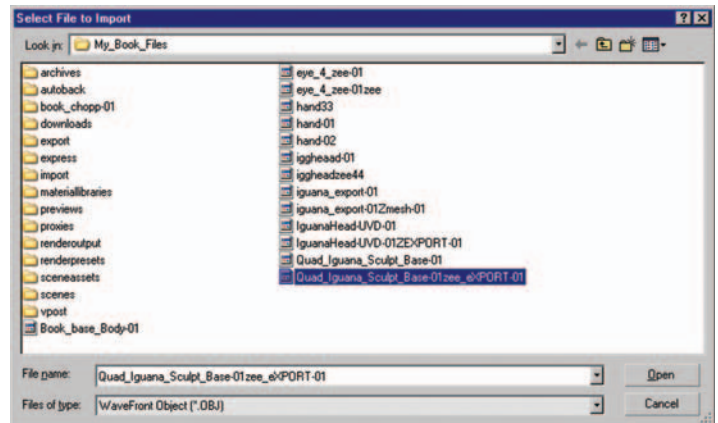

Figure 11.47 Select File to Import dialog box with .obj file to import selected.
2. Select the .obj file you exported from ZBrush. Figure 11.47 shows the Select File to